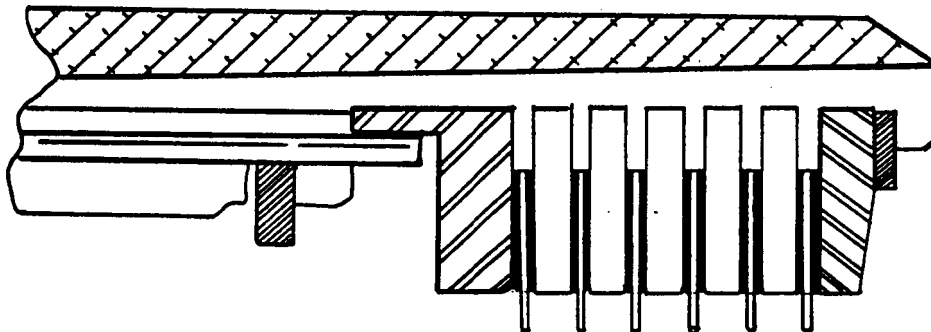

Figure 4
5. New design 3-4 Selective Backing Plate, as they are thinner (See Figure 4).
7. *Note:* Ensure that you have .050"-.070" clutch clearance (See Figure 4).